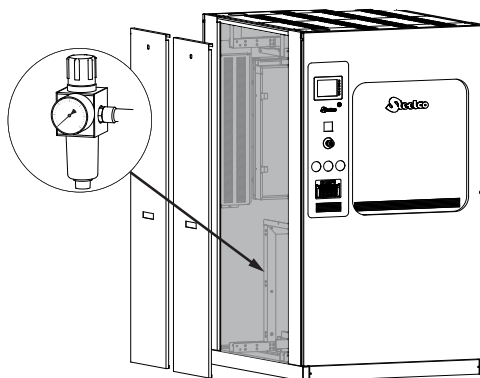

Figure 5 – Pneumatic connection
- ▶ Connect the autoclave to the compressed air line and be sure the pressure is fixed at 6 bar, verifying the absence of liquid in the supply (Figure 5).